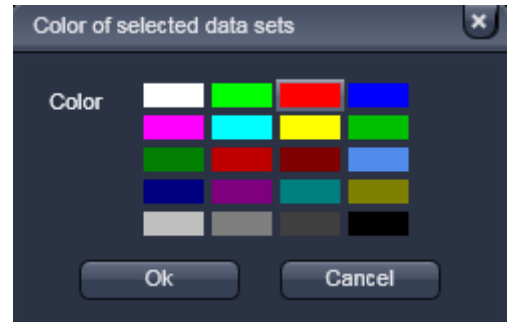

Fig. 340 Color of selected data sets submenu window
- Click with the right mouse button in the table and select **Color** from the context menu. This will open the **Color of selected data sets** (Fig. 340) submenu window.